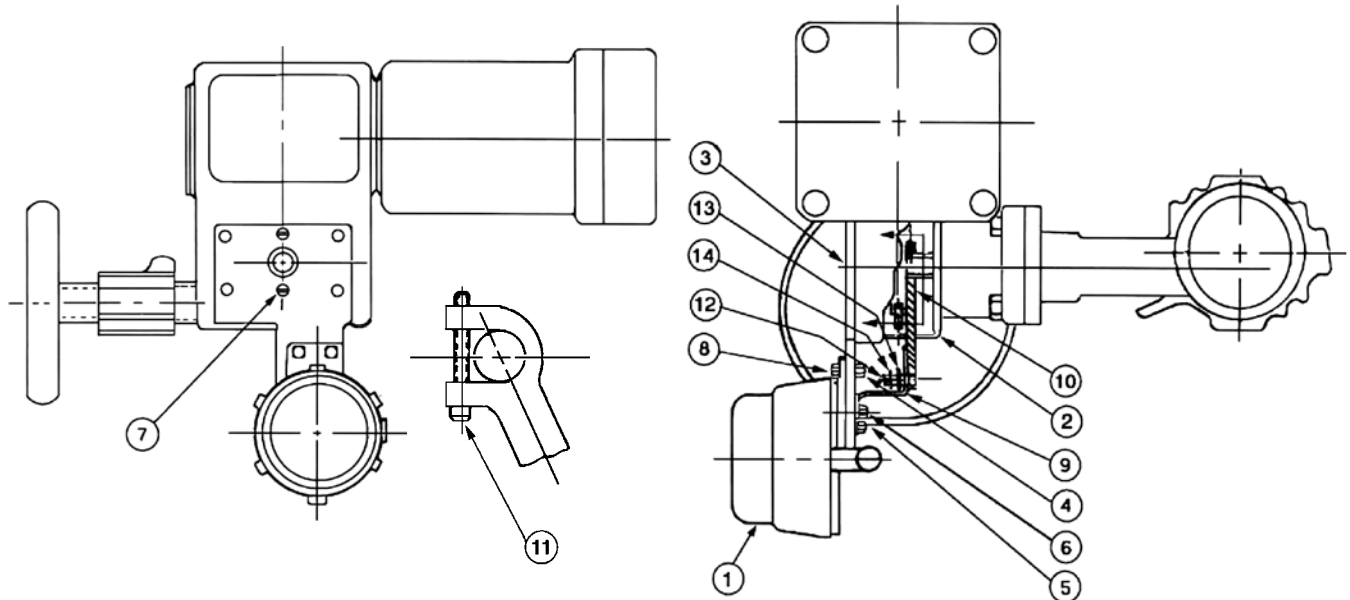
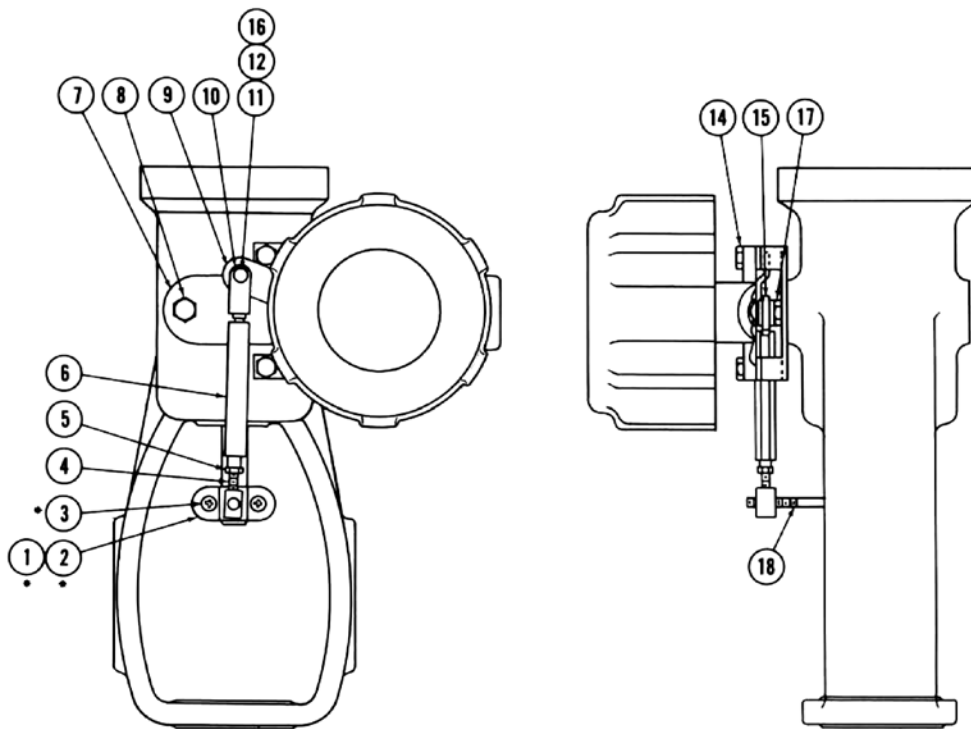

Figure 3
Figure 6
Only two couplings are used to connect the switch shaft (11) to the valve; a strip type coupling (Ref. 9, Figure 3) for rotating shaft valves and a back lever (Ref. 9, Figure 6) for linear motion valves. Each is fastened to the switch shaft (11) with a spring washer and cap screw. Refer to Figures 3 through 7 for mounting details.